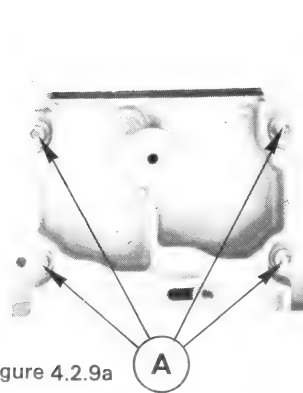

Figure 4.2.9a
- Unscrew 4 screws A (magnetic pot). Figure 4.2.9a access holes under the table.